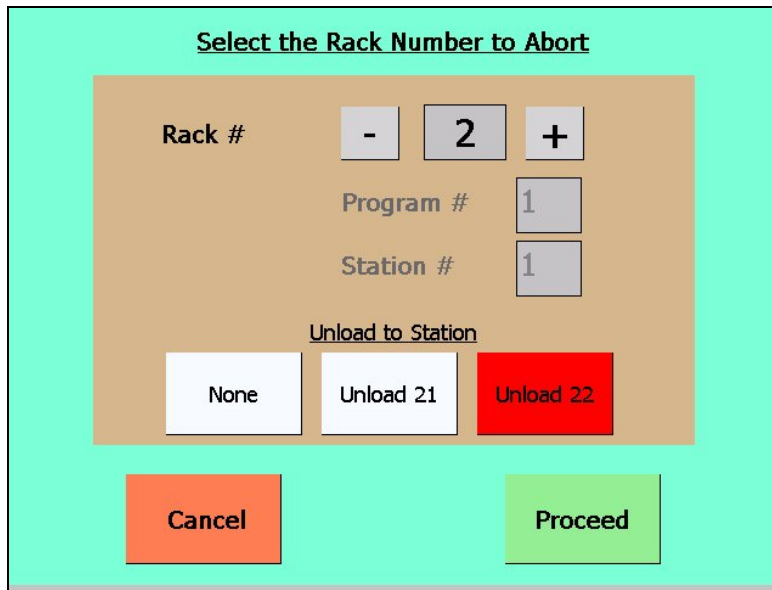

Figure 7-6: Cancel Rack Selection Screen
6. Select **Cancel One Rack** to view the Cancel Rack Selection Screen as shown in Figure 7-6.